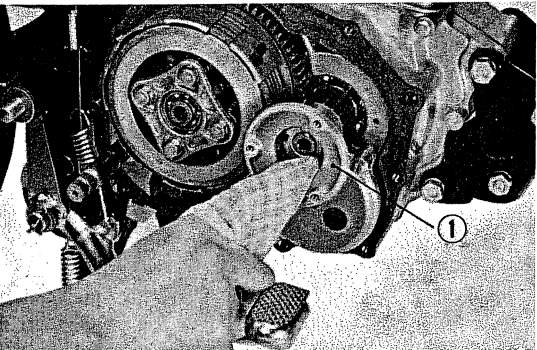

Fig. 14 ① Oil filter
- 4) Remove the centrifugal oil filter cap and clean inside. (Fig. 14)